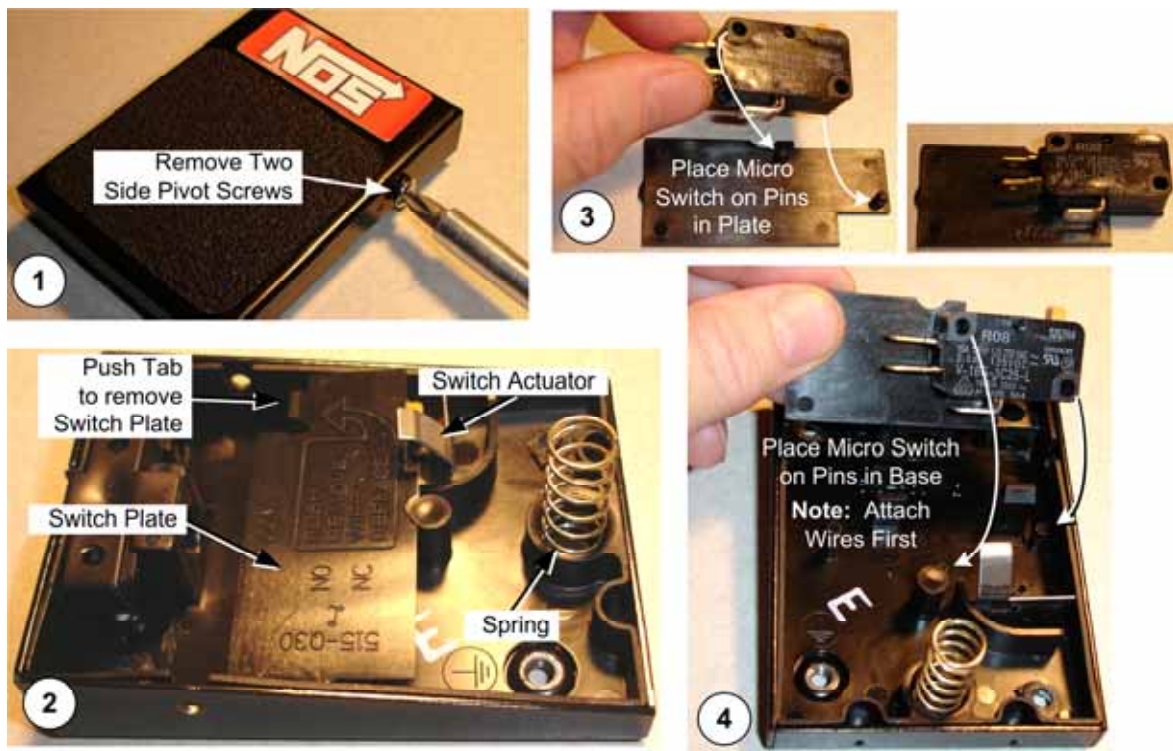

Figure 9. NOS Pedal Service
Refer to Figure 9 and perform the following steps to disassemble the NOS pedal and replace the micro switch:
**Note:** Figure 9 shows the NOS Pedal Assembly without wires to better show components.
1. Remove the three (3) Torx screws that secure the NOS Pedal mounting bracket to the floor.
3. Remove the two (2) Phillips screws and one (1) Hex screw that secure the pedal to the mounting bracket.
4. Remove the two (2) pivot screws from the sides of the pedal and lift the top off. (See ① below.)
5. Push the plastic tab as indicated by the arrow on the switch plate, and pop the switch plate out of the assembly. (See ② below.) ③ ④